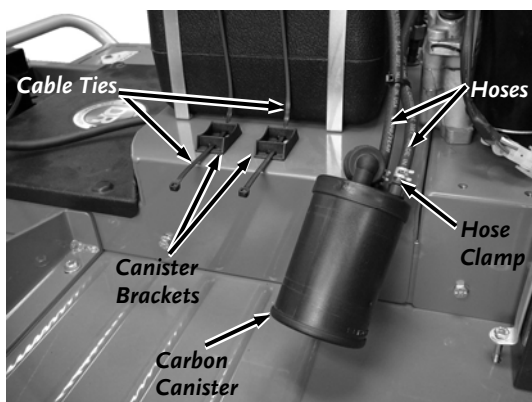

Figure 37
3. Slide the Hose Clamp down from the Hose connection with Pliers and twist the Hoses from the Canister (Figure 37).